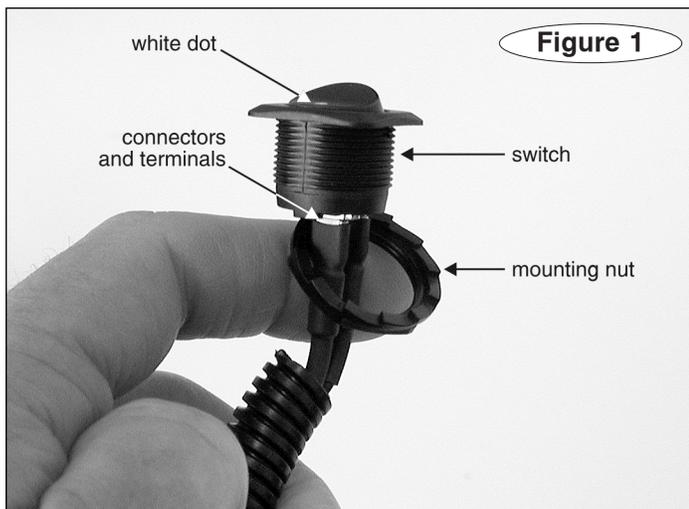

Figure 1
- You will remove the mounting nut (Figure 1) and the wiring connectors (Figure 1) to install the switch. You must be able to reach behind the switch to reattach them.
11. Position the switch in the hole, with the white dot side (Figure 1) up.
To drive the vehicle – flip the switch so that the side with the white dot (Figure 1) is depressed.